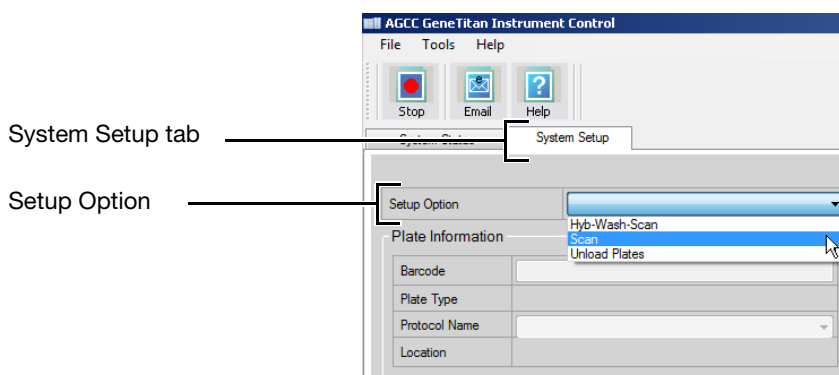

Figure 53 Scan setup option for processing a second array plate
2. Go to the **System Setup** tab and select **Scan** from **Setup Option** drop-down list (Figure 53).